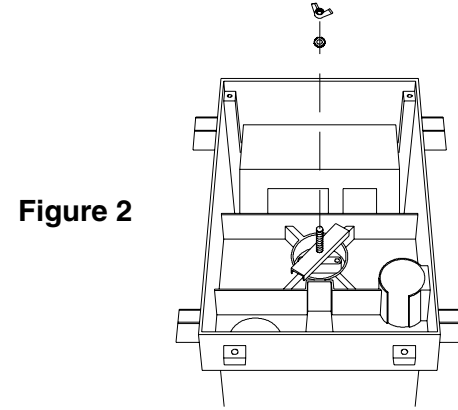

Figure 2
2. Place lock washer on center bolt. Secure ballast box with wing nut (included). See Figure 2.